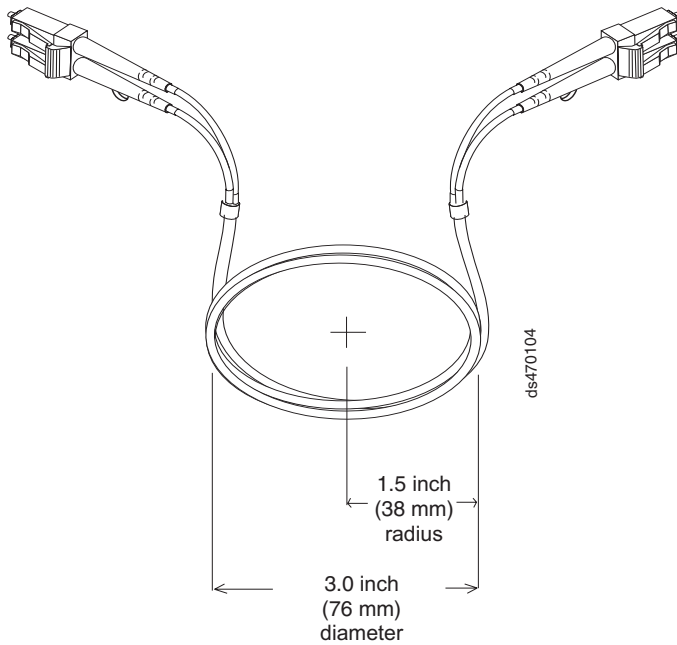

Figure 27. Recommended bending and looping specifications for fibre-optic cables
- When storing excess or unused fibre-optic cables, do not bend the cables to a diameter of less than 76 mm (3 in.), or a radius less than 38 mm (1.5 in.) or wrap them around themselves. See Figure 27 on page 48.